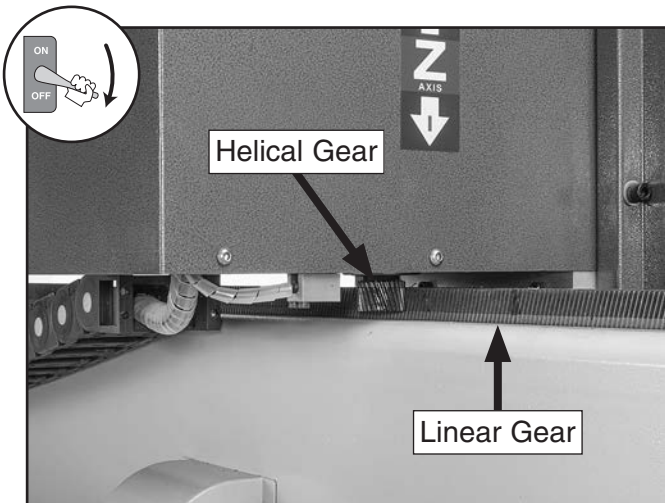

Figure 76. Rack and pinion lubrication area.
2. Clean X-axis helical and linear gear with a brush and mineral spirits to remove grime and old lubrication (see **Figure 76**).
3. Use a clean brush to wipe entire length of helical and linear gear with Grizzly T26419 or NLGI#2 Equivalent (see **Figure 76**).